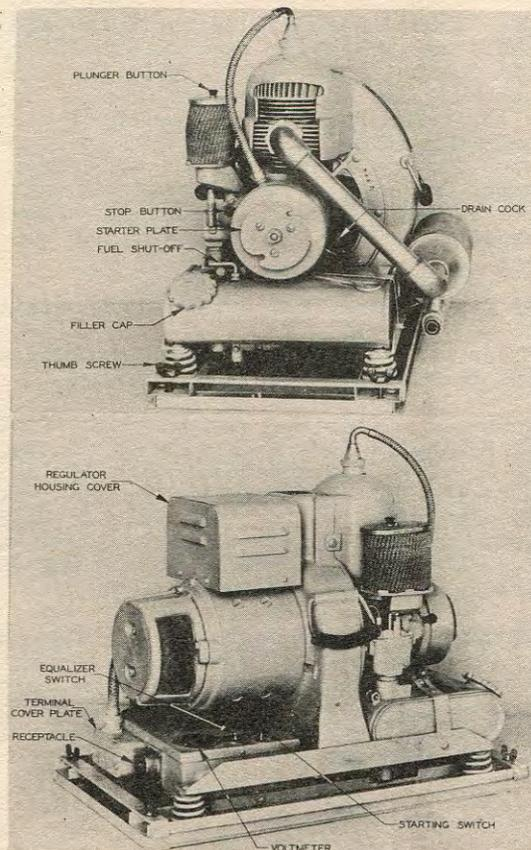

Figure 3 - Starting, Stopping and Operation
f. Remove voltage regulator housing cover (figure 3) and attach voltage regulator (not a part of Power Plant) by inserting prongs in clips at front, or engine end, and snap rear clips in place. For adjustment see T. O. No. 03-5AD-2. Replace cover.
g. Connect receptacles on Power Plant (figure 3) to plane wiring in accordance with wiring diagram (figure 3) Air Corps Spec. 32313.
a. Thoroughly mix 1/2 pint lubricating oil, Spec. 2-91A grade 62 (AN9532 grade 1065) with each gallon of gasoline and then pour into the one gallon fuel container (figure 3). To measure the oil, fill the container cap four times (cap capacity 1/8 pint). Lubrication for the entire engine is obtained by mixing oil with gasoline, and it is extremely important that the oil be thoroughly mixed with the gasoline.
2. Starting (figure 3).
4. Stopping (figure 3).